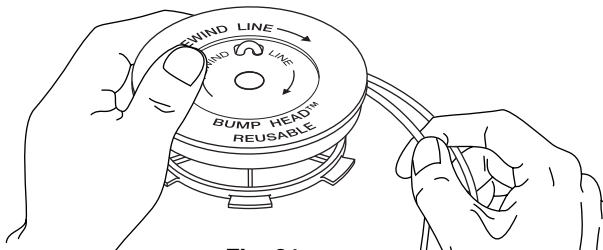

Fig. 21
- Wind the lines in tight even layers, onto the reel (Fig. 21). Wind the line in the direction indicated on the inner reel. Place your index finger between the two lines to stop the lines from overlapping. Do not overlap the ends of the line. Proceed to step 11.